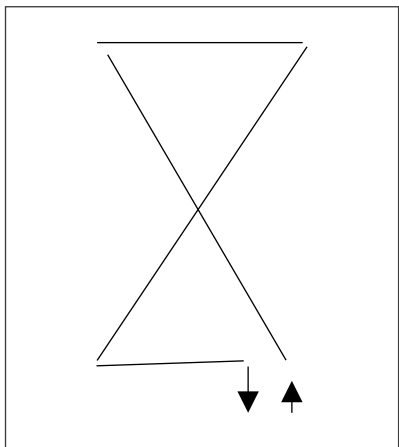

Figure 12: Observation of 60-70% of the field
- viii) **Field inspections** - A seed grower should know how to inspect the seed crop. the objective of field inspection is to identify any plants that are different from the variety being grown. These are called off types and should be removed before flowering of the seed crop. This activity helps identify diseases early for timely action in controlling them. Suggested walking patterns are given in figure 12 and 13.